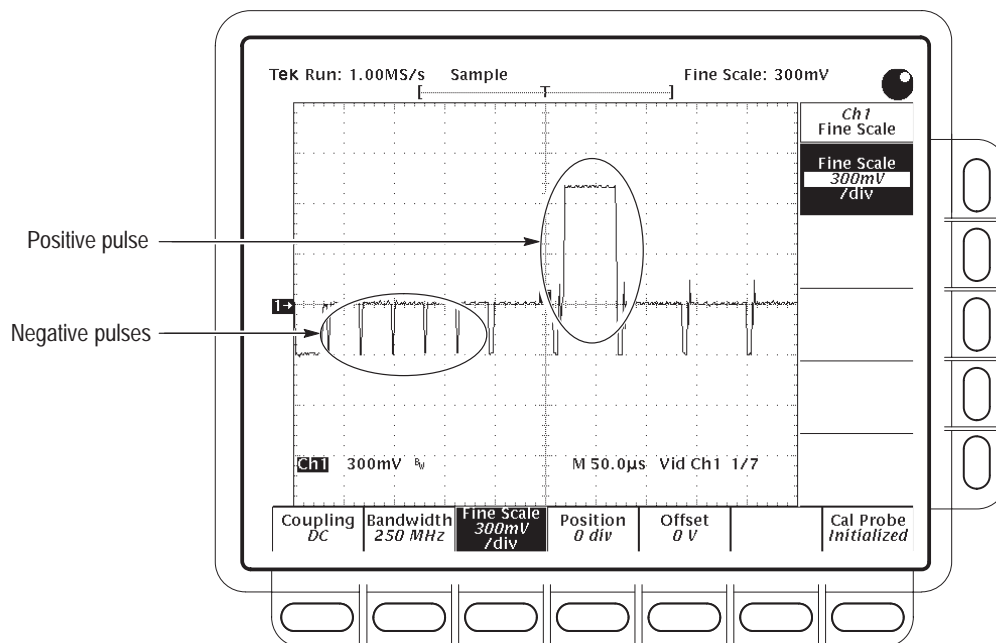

Figure 4–28: Triggered signal range test – 300 mV
- m. CONFIRM that the **TRIG'D** LED stays lighted and that the waveform on screen is stable. Also, CONFIRM that the waveform on the screen has one positive pulse and a number of negative pulses. See Figure 4–28.